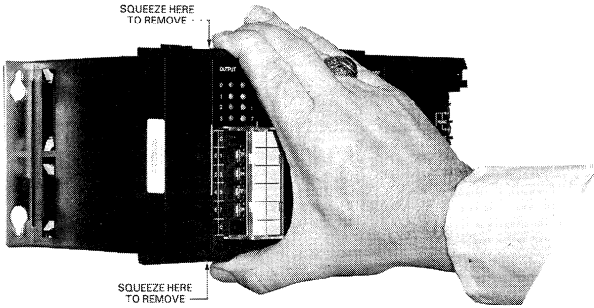

Figure 3.7 MODULE REMOVAL FROM EXPANSION RACK
21. To remove a module from an expansion rack, squeeze the top and bottom snap locks (Figure 3.7) towards the center and pull the module straight out. Squeeze force should be about 10 pounds (5 Kg) and pull force about 8-12 pounds (4-6 Kg).